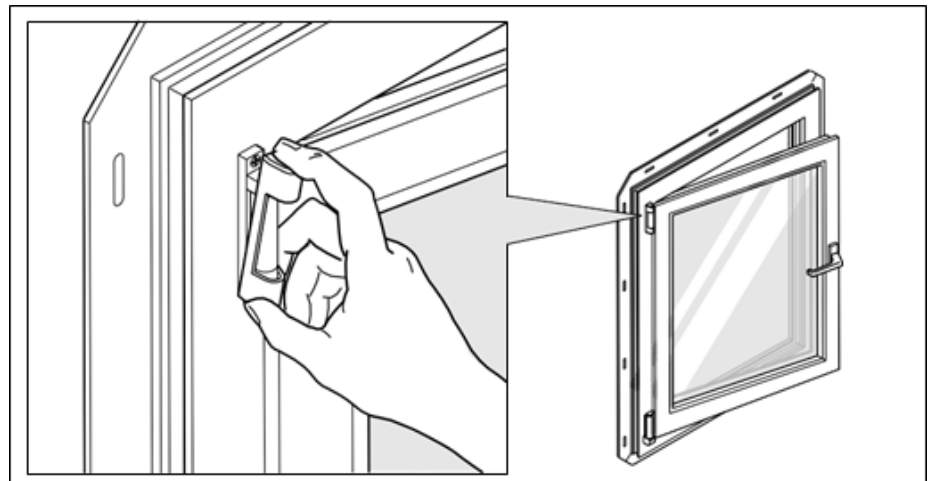

Figure 2-7. How to remove the hinge cap
- 3.2 Pull off the hinge cover. If you do not partially open the sash, you cannot remove the hinge cover. See fig. 2-7.